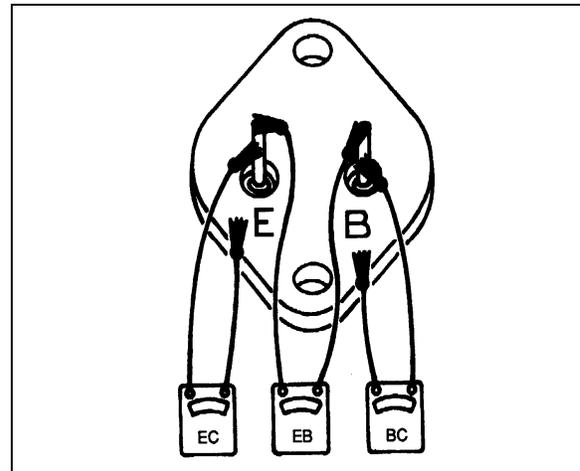

FIGURE 46: CHECKING TRANSISTOR TR1 06081
- B) By removing any retaining screws involved and unsoldering the connections. When resoldering, limit solder time to a minimum as excessive heat may damage the printed circuit board and component parts. However good soldered connections are essential for satisfactory operation. A resin core 63% tin 37% lead solder with a 360°F (182°C) melting point is recommended along with a soldering iron rated at 50 watts or less. Use extreme care to avoid overheating. Before checking the printed circuit board, remove transistor TR1, which must be checked separately. Connect the ohmmeter as shown in figure 46, and then reverse the ohmmeter leads to obtain two readings on the same component. Use the middle scale on scale-type meters on which the 300 ohm value should be within, or nearly within, the middle third of scale.
Transistor TR1 = See figure 46. Use the low scale. Each of the three checks should read low and high. If not, replace TR1.